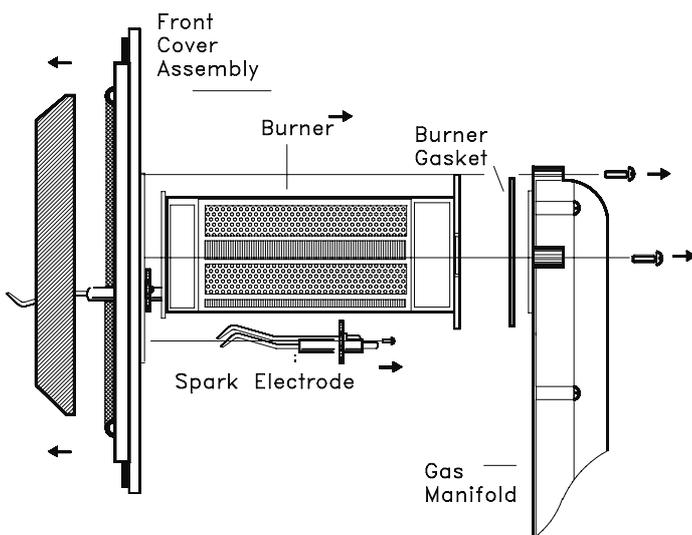

Fig.40
- 8.11.1 For access ref. sect. 8.9 (fig.40).